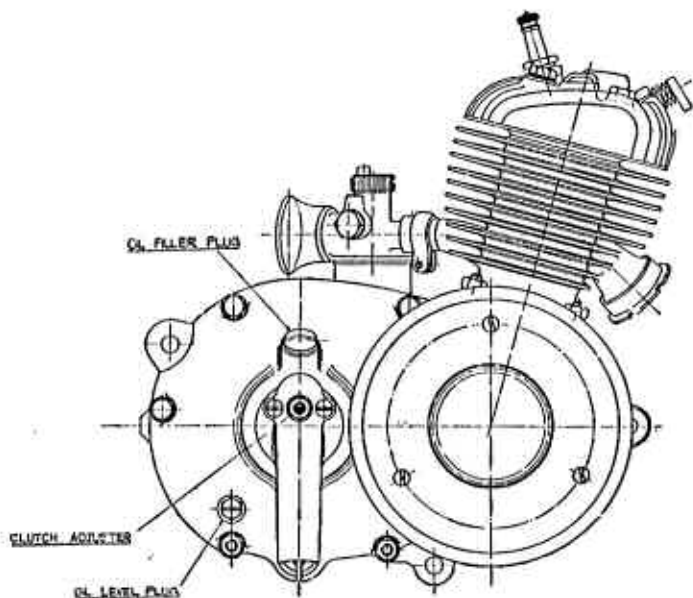

Fig. 1.
- Chaincase.** Remove the chaincase oil filler and oil level plugs, see Fig. 1, and with the cycle off the stand, pour in the correct grade of oil as recommended on page 12 until it runs out at the level plug hole. Refit plugs securely. Examine every 500 miles and top up if necessary.
Examine the oil level in the clutchcase by removing the level screw (See Fig. 1). Top up if necessary with the grade of oil recommended on the opposite page.
Clutch Cable. The clutch cable is adjusted by means of the adjustment screw on the clutch bridge (see Fig. 1, page 8). Screw adjuster in until there is just a trace of slack in the cable; this is essential, otherwise the clutch may be slightly disengaged and cause slipping. Tighten locknut after adjustment.